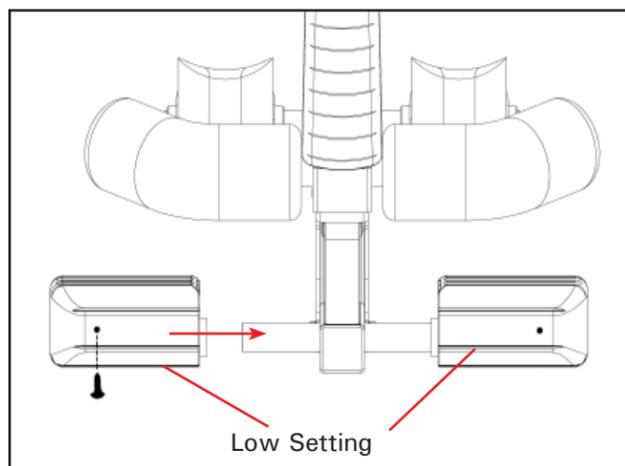

Figure 19
- Insert the screw (IA-1123) into the Foot Piece and tighten with the screw driver (F5-1130) (Figure 19).